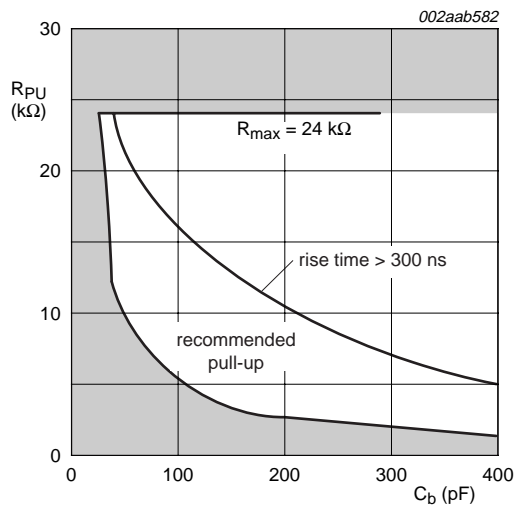

Fig 5. Bus requirements for 3.3 V systems
In addition, regardless of the bus capacitance, always choose  $R_{PU} \leq 16 \text{ k}\Omega$  for  $V_{CC} = 5.5 \text{ V}$  maximum,  $R_{PU} \leq 24 \text{ k}\Omega$  for  $V_{CC} = 3.6 \text{ V}$  maximum. The start-up circuitry requires logic HIGH voltages on SDAOUT and SCLOUT to connect the backplane to the card, and these pull-up values are needed to overcome the precharge voltage. See the curves in Figure 5 and Figure 6 for guidance in resistor pull-up selection.
**Remark:** Application assumes bus capacitance within 'proper operation' region of Figure 5 and Figure 6.